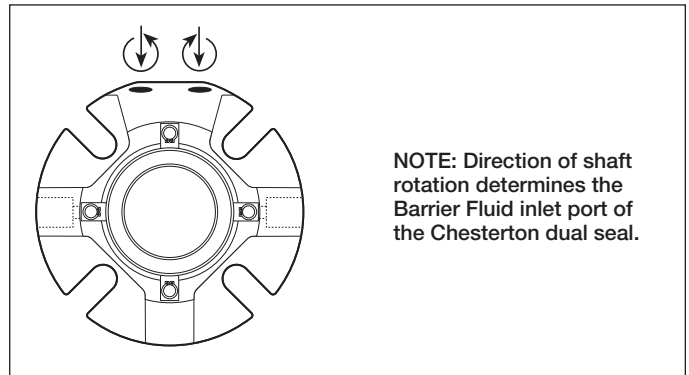

Figure 1 - S20 Piping Inlet for Specific Shaft Rotation
2. Determine the inlet and outlet barrier ports on the Chesterton dual seal. Reference Figure 1.